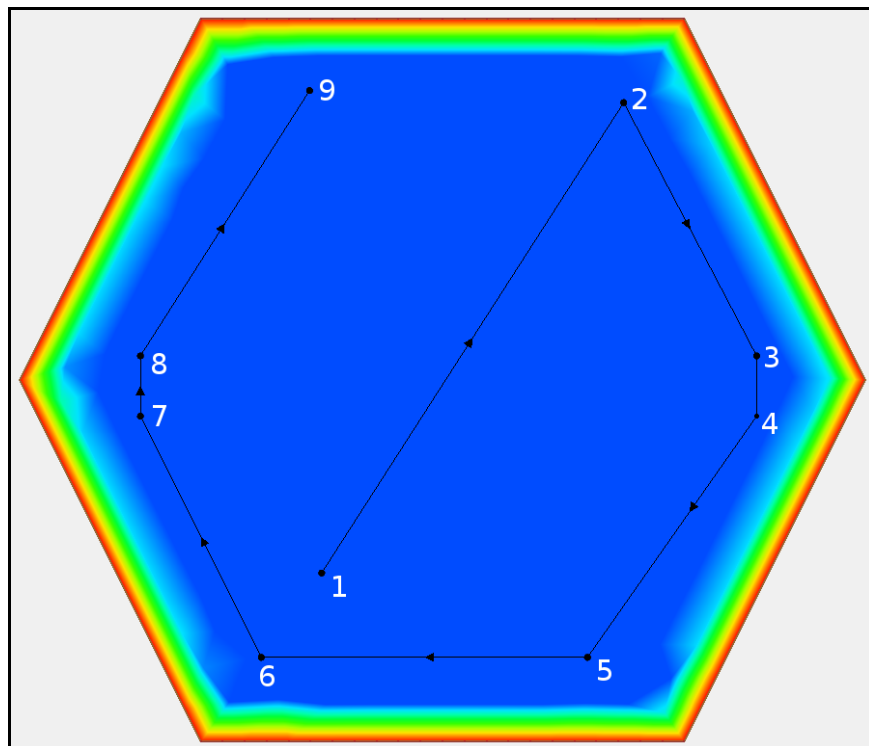

Figure 5 Nodes and vertices numbered
3. Using either the **Select Feature Vertex**  tool or the **Select Feature Point**  tool, select the vertex or node closest to the coordinates in the table and change the coordinates in the Edit Window for that vertex or node according to the table. See Figure 5 for the number of each node or vertex.
- Convert any vertices to nodes (except for point #4 in Figure 5) by right-clicking on the point and selecting **Nodes ↔ Vertices**.